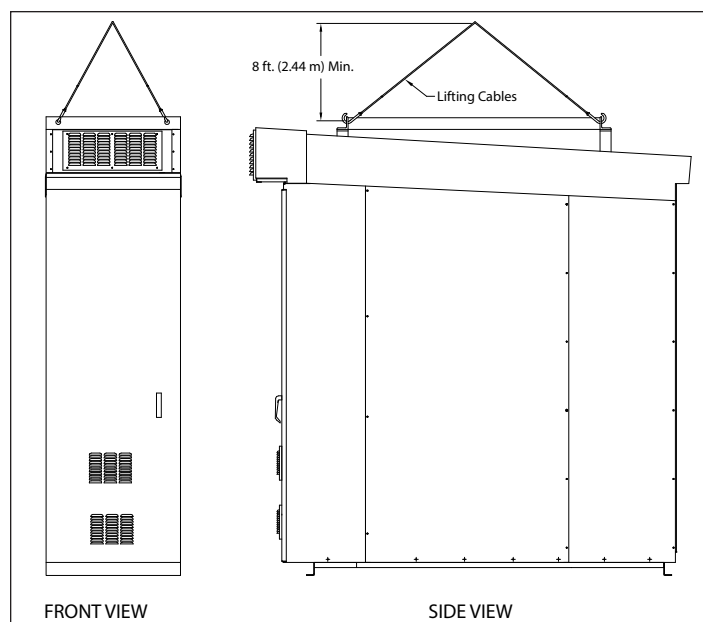

Figure 3. Lifting Angles for Outdoor Aisleless and Outdoor Common Aisle.
- Figure 3: Outdoor Aisleless and Outdoor Common Aisle Metal-Clad Switchgear